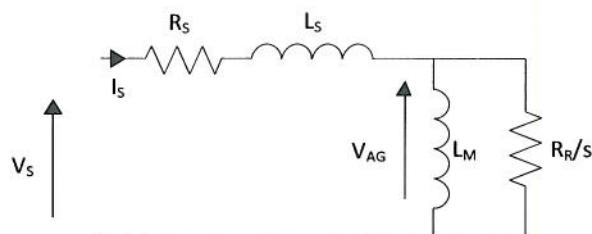

Figure Q2.2 Simplified equivalent circuit of an induction machine
- e) Figure Q2.2 shows a simplified equivalent circuit of an induction machine. Show that when operating the machine at the rated air gap flux, the magnitude of the stator voltage should be set in proportion to stator frequency at high speed and derive a modified expression for low speed operation.